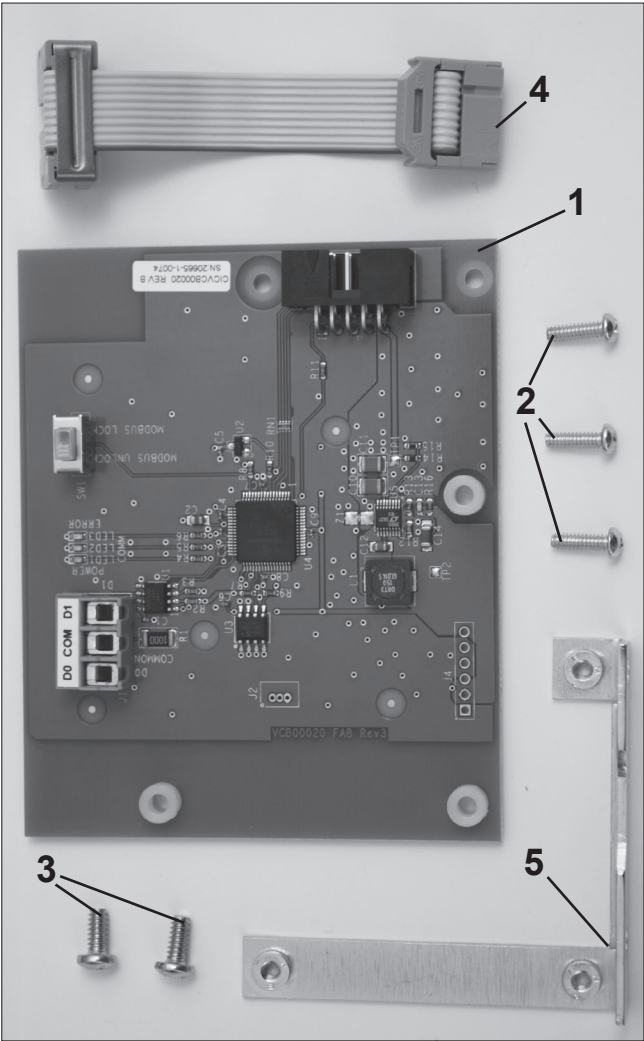
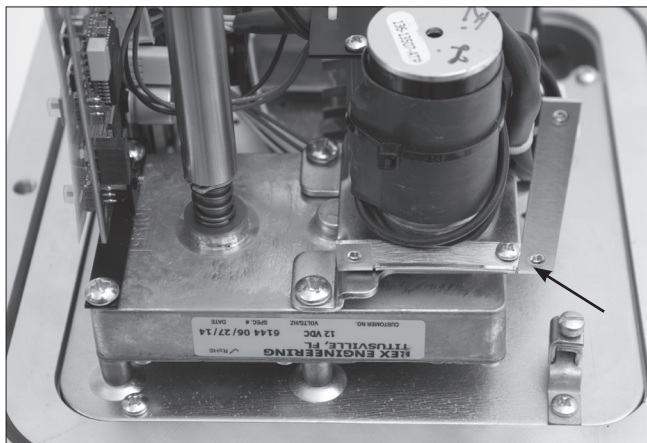

Figure 11 - VCK00002
Figure 14 - Bracket Locations
2. Verify parts received to **Table 4** and **Figure 11**.
Locate the *Modbus* board bracket (See **Figure 11**) and install to the motor bracket using supplied #6-32 x 3/8" phillips screws (2) as shown. (See **Figure 14**)